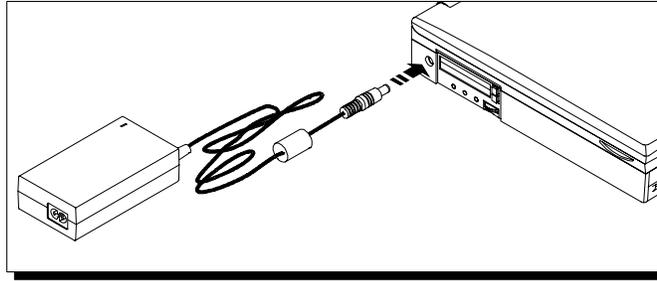

Figure 5-6: Connecting the AC Adapter to the Notebook's AC port
1. Insert the end of the AC Adapter output cable into the Notebook's AC port. Please refer to *Figure 5-6*.